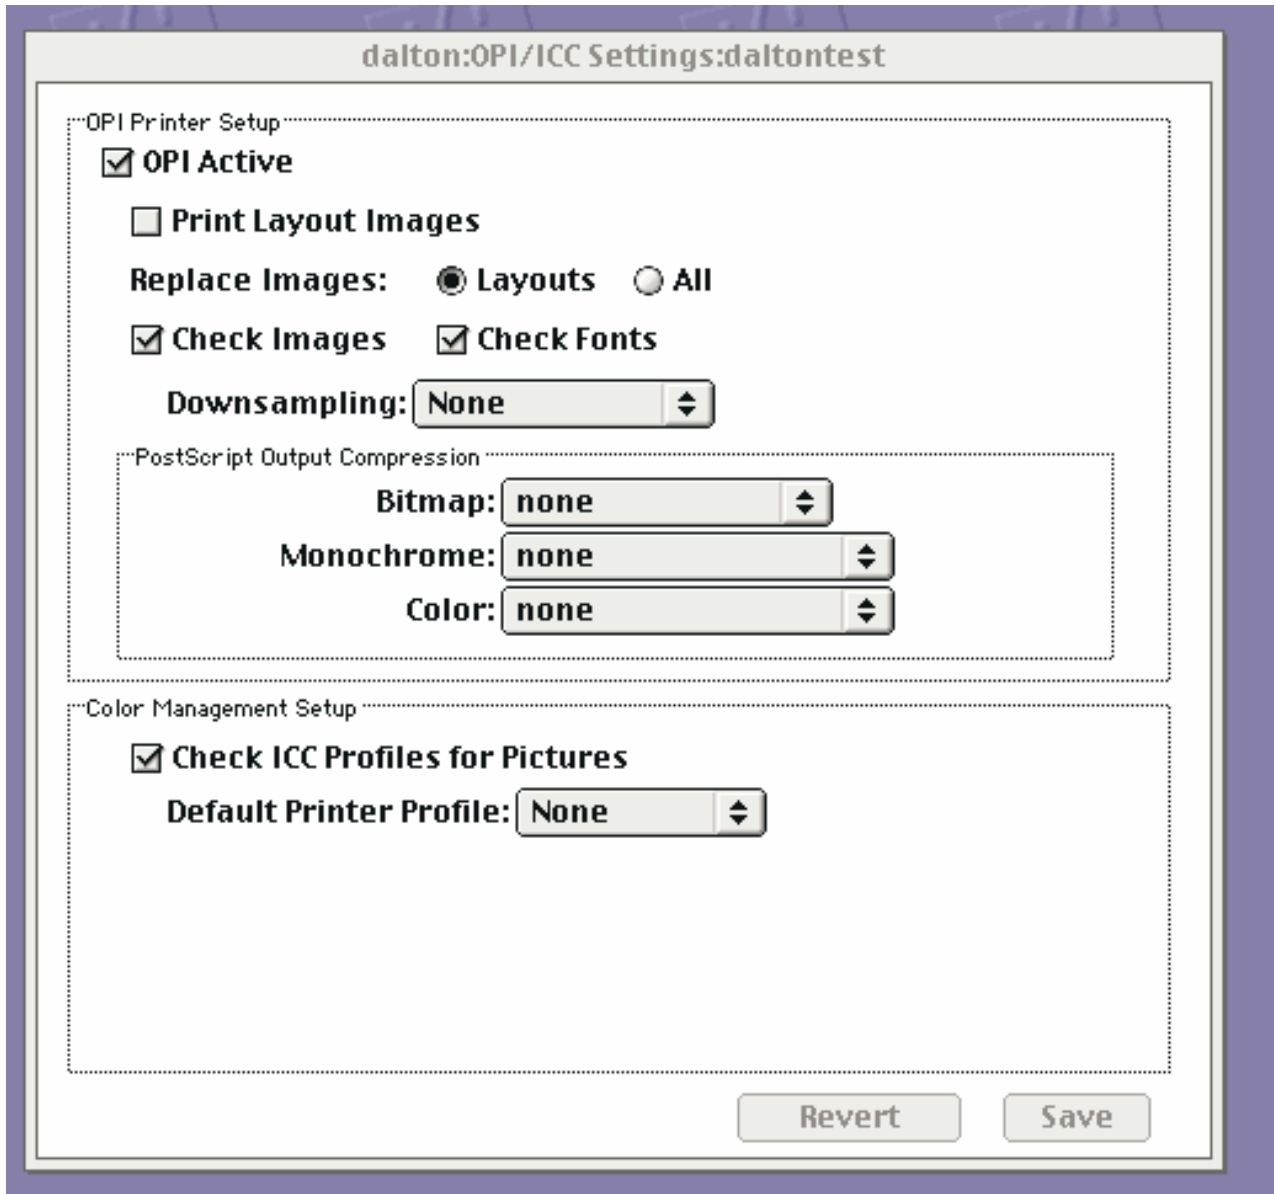

Figure 37. OPI/ICC Settings window
7. From the dialog (displayed in Figure 37 on page 146), ensure that the **OPI Active** checkbox is checked.
- Checking the OPI/ICC Settings on the Helios print queue (see Figure 37 on page 146). Ensure that the check boxes for **OPI Active**, **Check Images**, **Check Fonts**, and **Check ICC Profile for Pictures** have all been checked. If any are unchecked, check those check boxes, save the settings, and try running the jobs again.